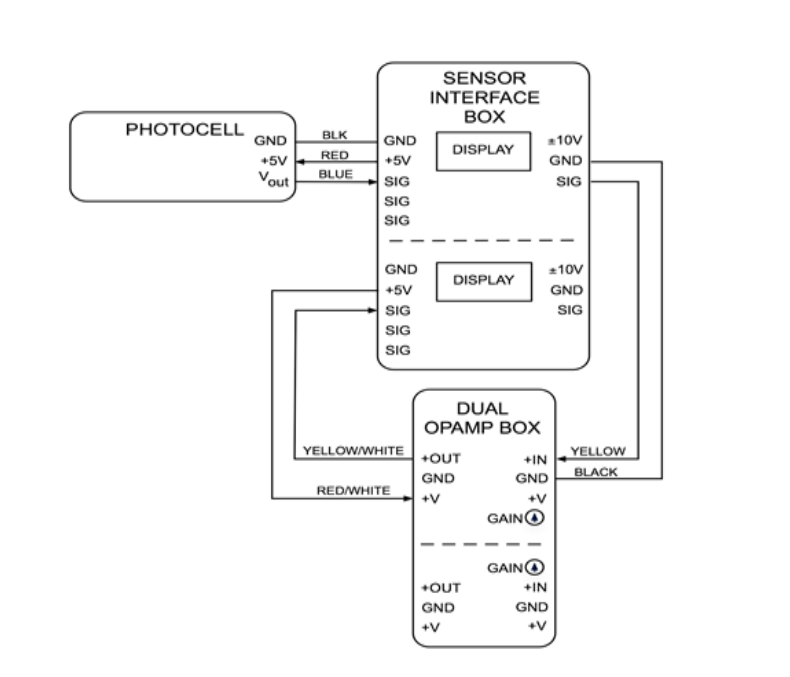

Figure 2 - Wiring Diagram of photocell and red dual operational amplifier box.
1. For the next four instructions, refer to Figure 2. Be sure to record BOTH sensor interface box channels when making measurements. Use a descriptive label for both channels (voltages) in your lab notebook.